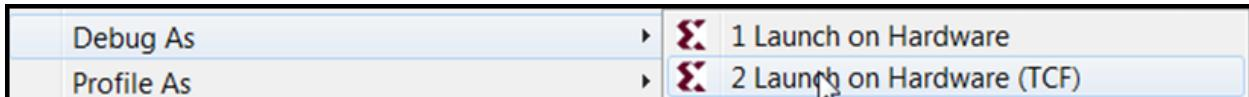

Figure 54: Launch on Hardware
5. Select **Debug As** and **Launch on Hardware (TCF)** (Figure 54).